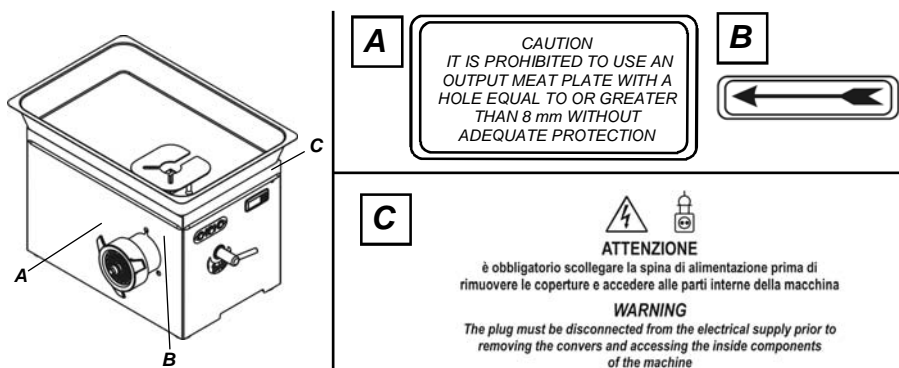

Fig. 1.7.2
1.7.1 - Warning signs and danger (fig. 1.7.2)